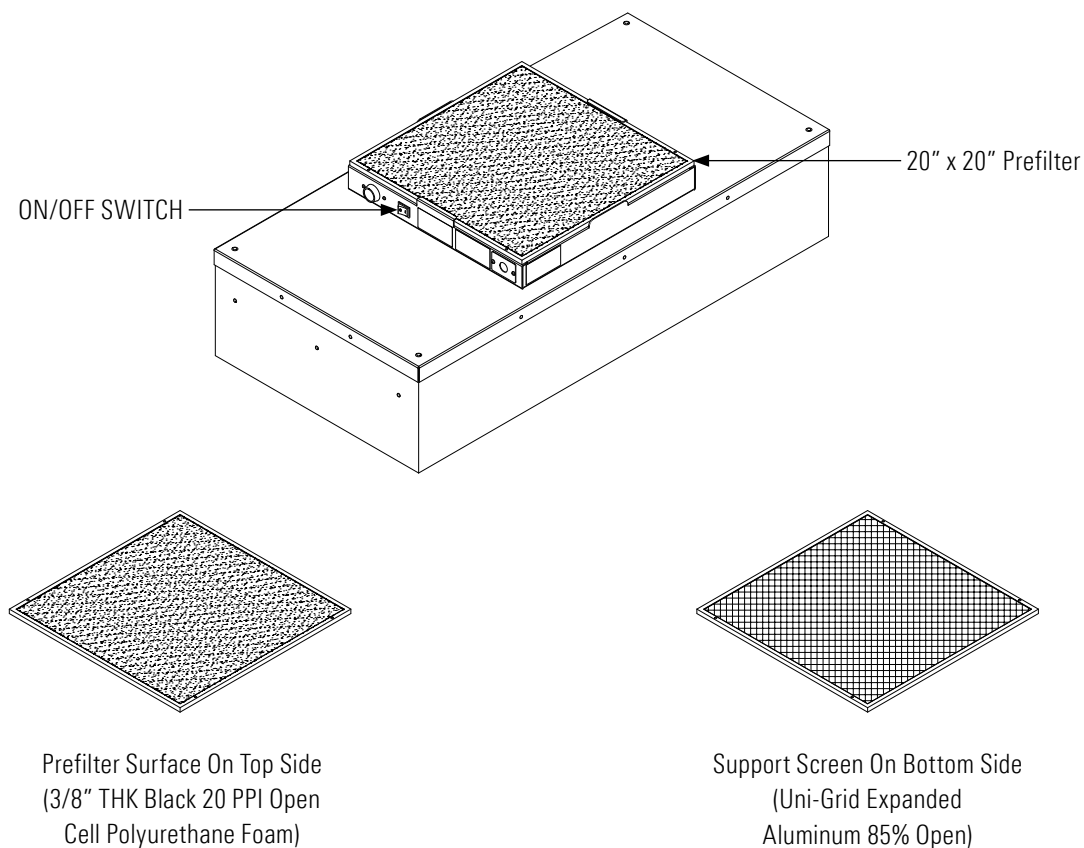

FIGURE 4: FOAM CLEANING PREFILTER
**Step 3.** Remove the prefilter from the snap-in frame. (See Figure 4, below.)